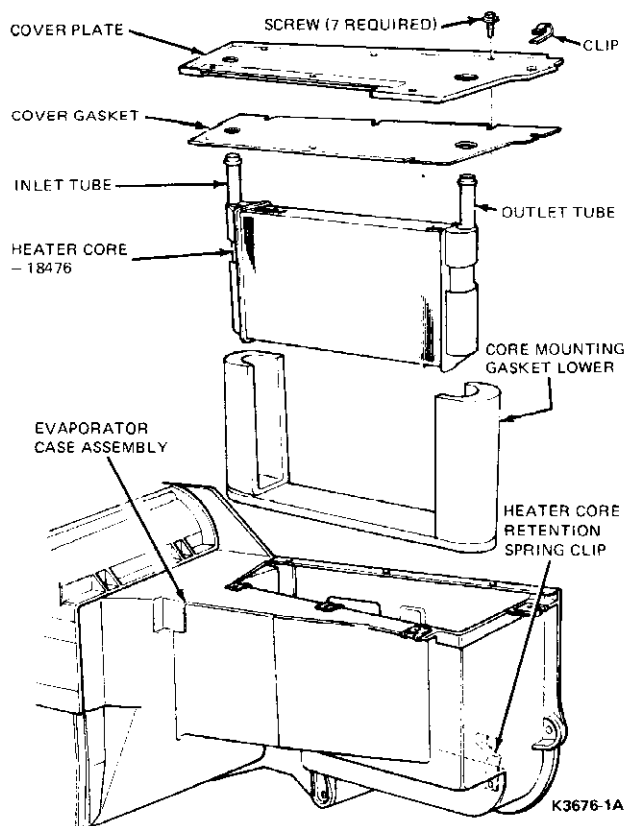

FIG. 47 Heater Core Removal — Ford, Mercury and Lincoln Continental
6. Remove the heater core cover plate retaining screws (7) and remove the heater core cover plate and cover plate gasket (Fig. 47).